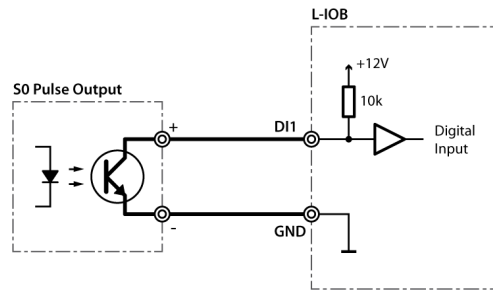

Figure 44: S0 pulse meter connected to DI
S0 pulse meters must be connected to digital inputs (DI) as shown in Figure 44.